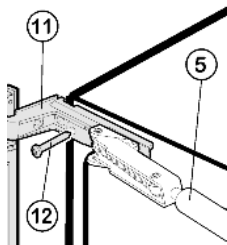

Fig. 15
- ▶ Angle the soft stop mechanism Fig. 15 (5) in such a way that the screw Fig. 15 (12) can be screwed in. Firmly tighten the screw (with 4 Nm).